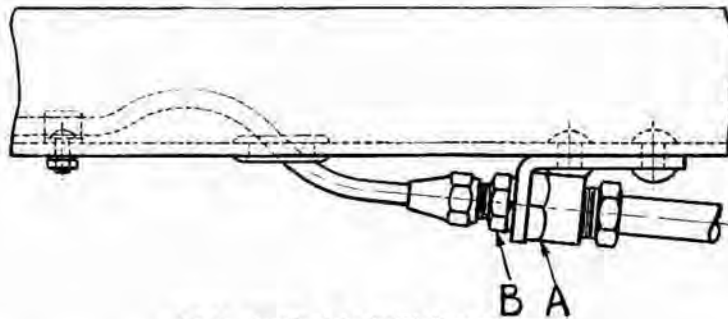

Fig. 5. Details of the flexible hose connection.
It is advisable not to unscrew the flexible hose at either end. Proceed, therefore, as follows: Disconnect copper tubing from the hose union (A) (Fig. 5) at the frame, then remove nut and lock washer (B), when the hose union may be removed from the bracket. Unhook brake-shoe return spring. Removal of the two set-screws holding the cylinder to the back plate allows cylinder to be withdrawn with hose in place.